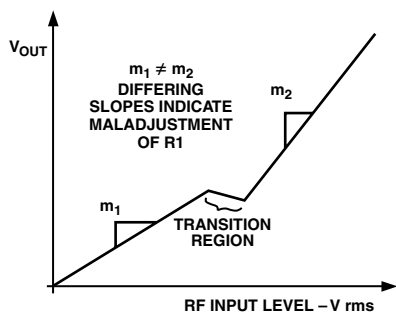

Figure 22. Slope Adjustment
3. Set R1 so that the transfer function's slopes are equal on both sides of the transition zone. This is perhaps best accomplished by making a plot of the overall transfer function (using linear voltage scales for both axes) to assess the match in slope between one side of the transition region and the other. See Figure 22. Note: it may be helpful to adjust R3 to remove any large misalignment in the transfer function in order to correctly perceive slope differences.